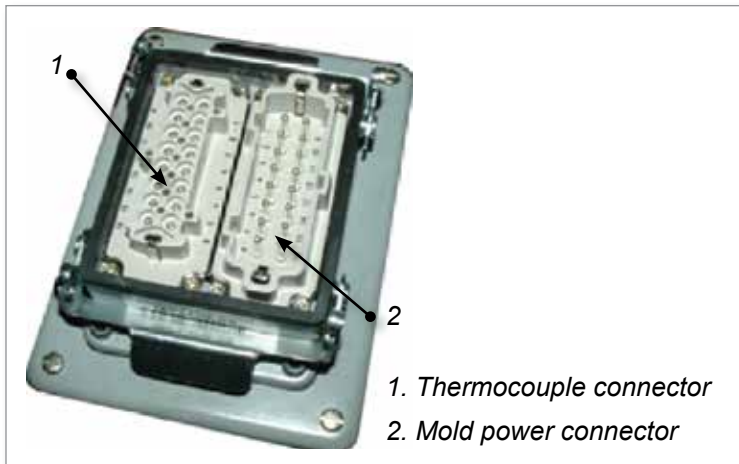

Figure 5-1 Mold plug
1. Measure the resistance between each pair of thermocouple wires and the mold's thermocouple connector. (See Figure 5-1 on page 5-3). The resistance should be between 2.5 Ω and 25 Ω .